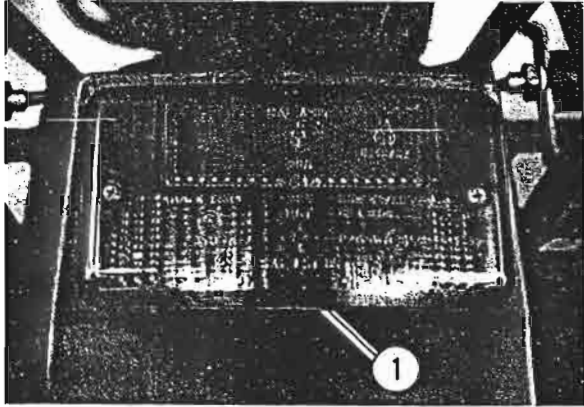

Figure 2-18. Rear Lamp Unit
See Figure 2-18. Check that taillamp (1) lights when ignition switch is ON. Apply brakes and check that brake lamp lights (shines more brightly than taillamp) when ignition switch is ON.